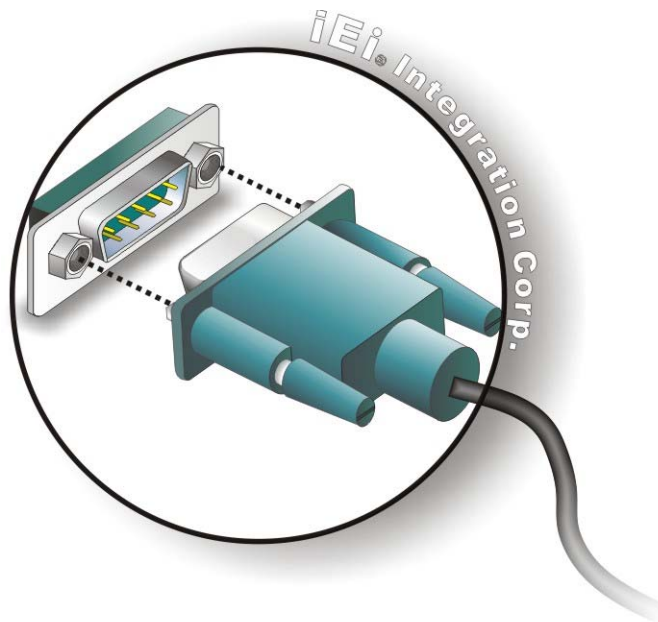

Figure 4-18: Serial Device Connector
Step 2: **Insert the serial connector.** Insert the DB-9 connector of a serial device into the DB-9 connector on the external peripheral interface. See Figure 4-18.